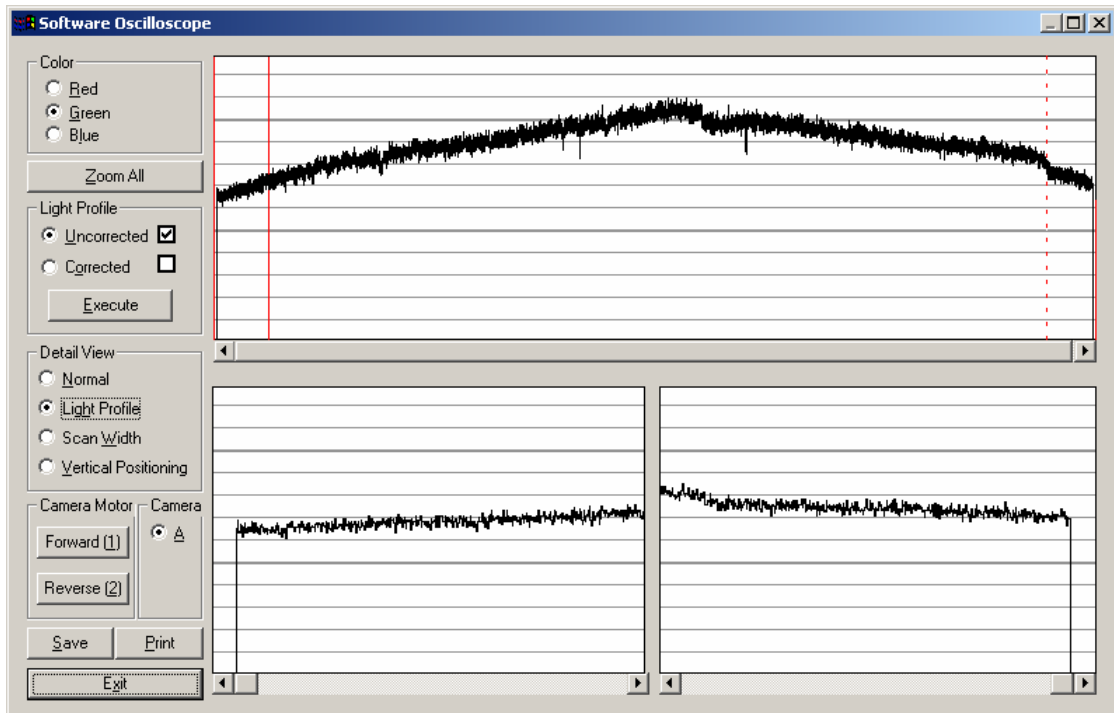

Fig. 4-5 COUGAR 25, CHAMELEON 25, Light Profiles Uncorrected
- Fig. 4-5 COUGAR 25, CHAMELEON 25, Light Profiles Uncorrected , page 89